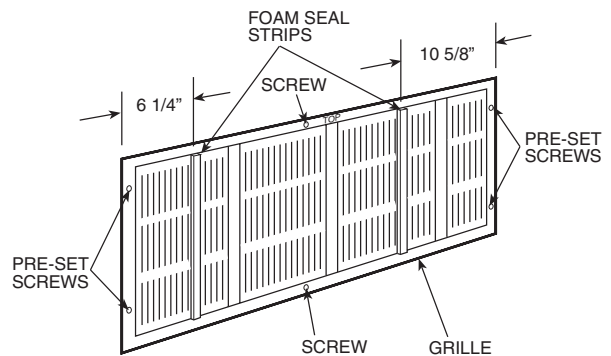

Fig. 2 — Location of Seals and Screws
1. Hold grille with TOP edge up (marked on inside of top edge). The foam seal strips should be on the indoor side facing toward you. See Fig. 2.